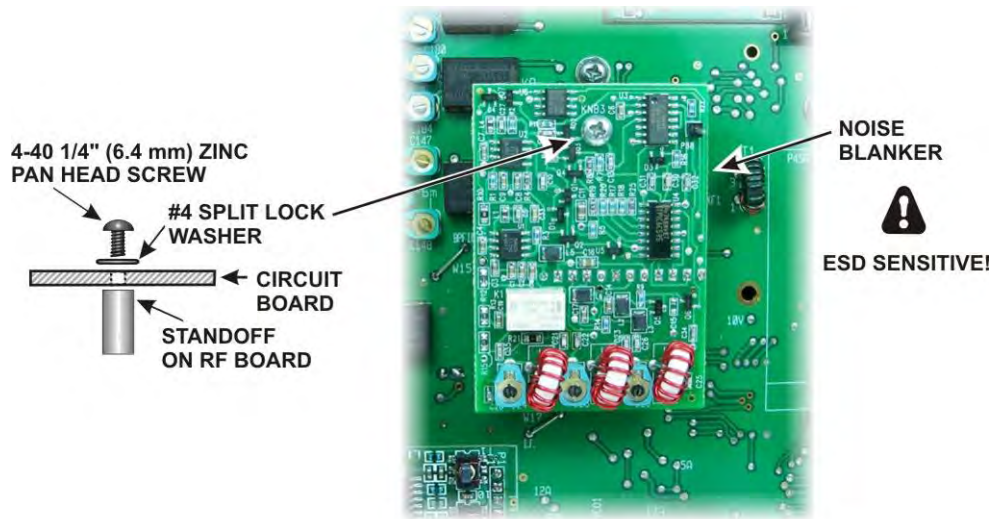

Figure 87. Installing the Noise Blanker Board.
- Plug the noise blanker board into J77 and attach it to the standoff using the hardware shown in Figure 87.